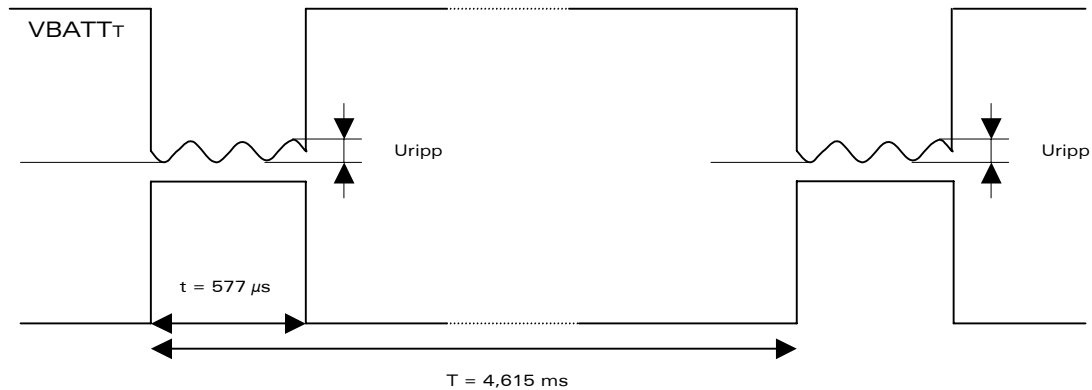

Figure 2: Power supply during burst emission
- In communication mode, a GSM/GPRS class 2 terminal emits 577 μ s radio bursts every 4.615ms. (see the Figure 2: Power supply during burst emission).